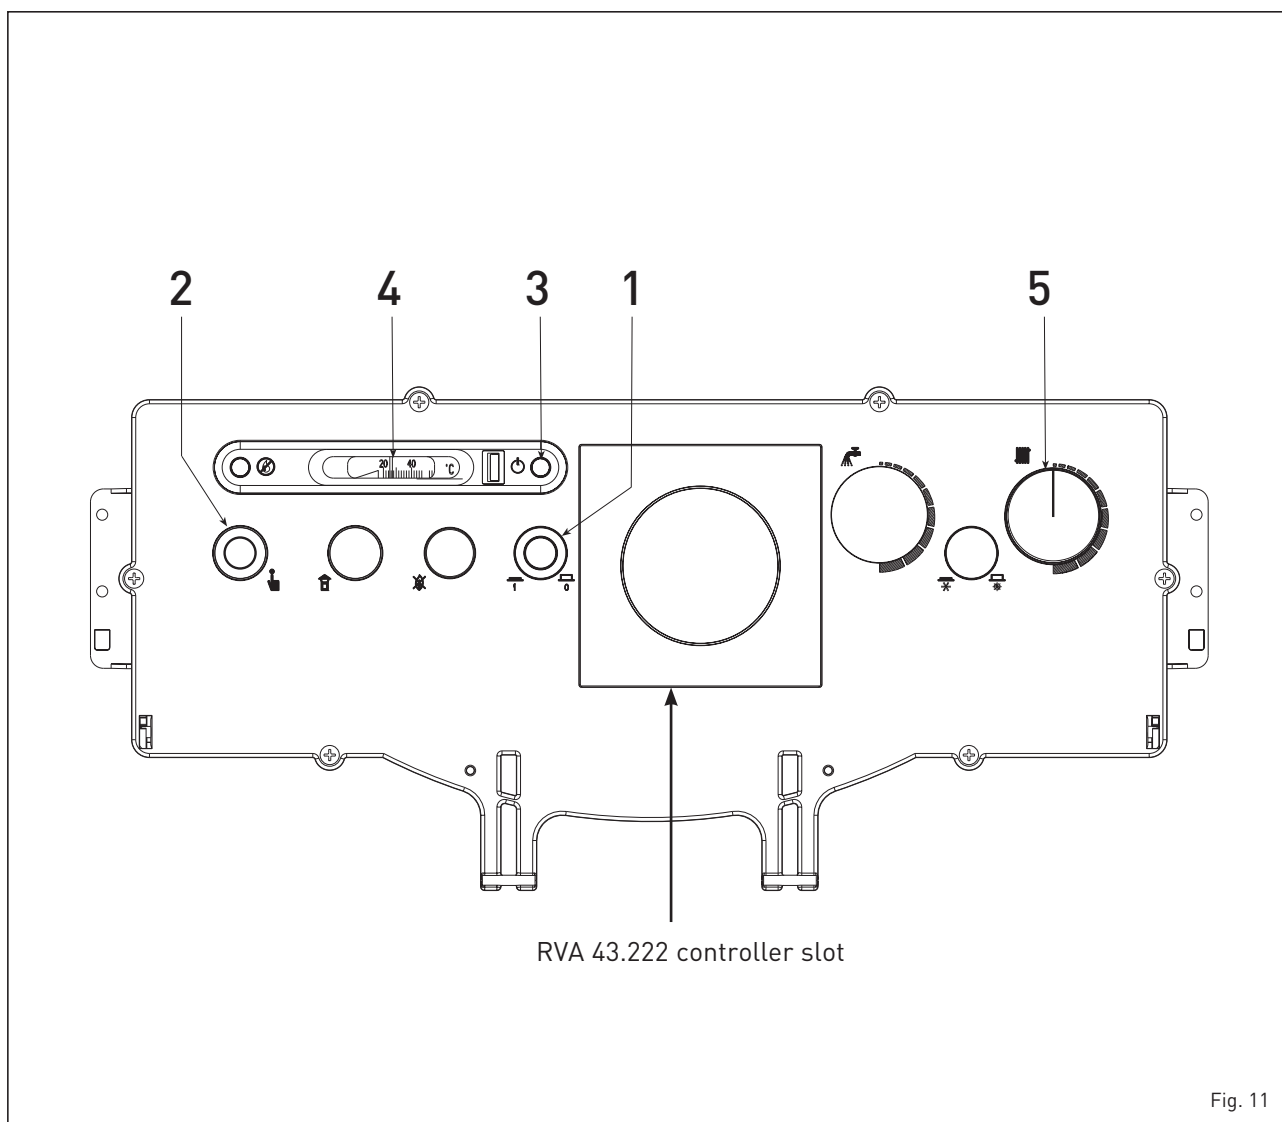

Fig. 11
All functions of the "2R GT OF" boiler may be controlled using the controller, optional code 8096303, which is supplied with an outdoor temperature probe (SE) and a boiler immersion probe (SC). The controller is installed in the control panel in place of the relating cover (fig. 11). The controller is to be connected to an additional series of low voltage connectors for connection of the room temperature control unit (the connectors are supplied in a bag inside the control panel). The probe bulb of the external hot water tank, if any, (SS) code 6277110, must be inserted in the hot water tank sheath, while the bulb of the boiler probe (SC) must be inserted in the boiler sheath.
lows (fig. 11):
The safety stat with automatic reset calibration set at 100°C (2 fig. 11) trips, immediately turning off the burner when the boiler accidentally overheats.
To temporarily turn off the boiler turn off the electricity supply by pressing the main switch (1 fig. 11).